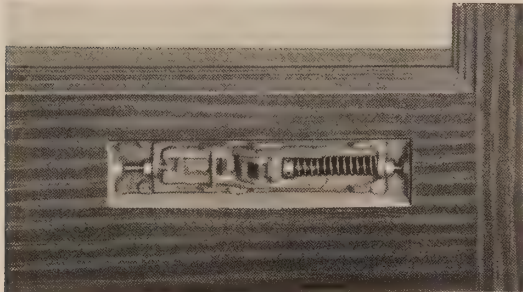

FIGURE 1
3. Side view of same trolley shown in Figure 1 above—showing how carriage is held in place by Arm No. T-H-4 and how carriage rests on channel iron track.
2. Sketch of same mechanism shown in Figure 1. When Pivot Lifter (see page 11, Figure 4) is raised, it in turn raises arm No. T-H-4 (see position indicated by dotted lines in Fig. 4 below) which releases carriage and permits same to be rolled aside.